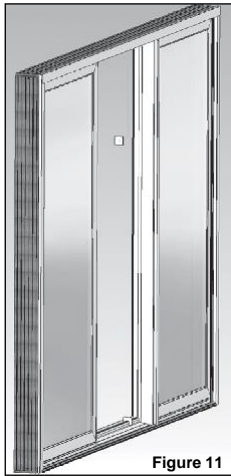

Figure 11
13. Install the foam seal, the “U”-shaped piece next to the rail and the square piece next to the head (Figure 11). Install the threshold (Figure 12 A-B).